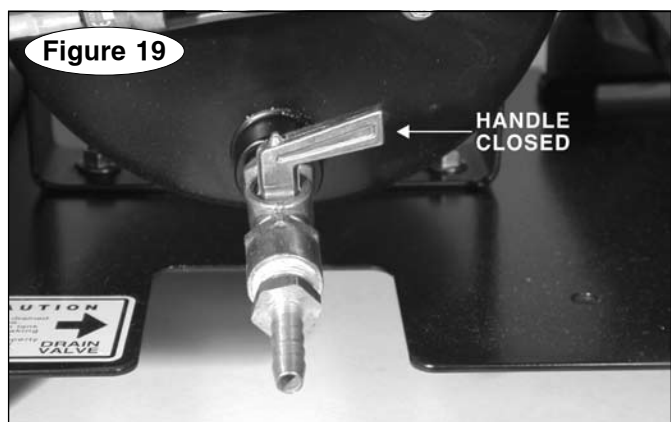

Figure 19
2. Make certain that the drain valve on the air compressor air tank is closed. Refer to Figure 19.